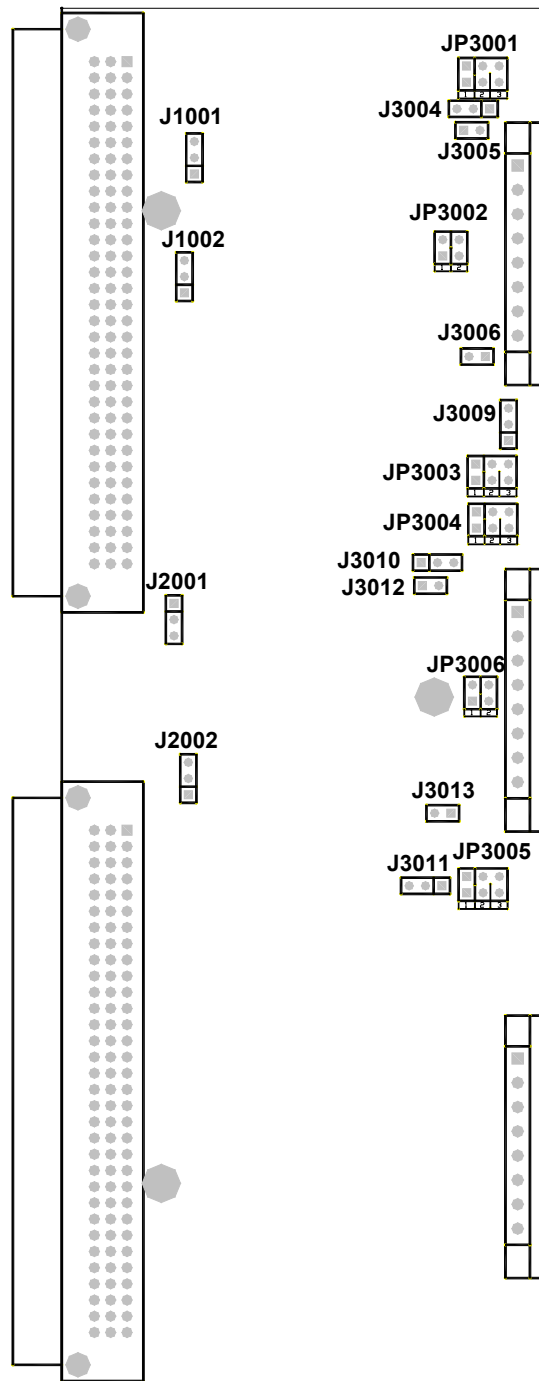

Figure 5 PT2060/20-Back panel jumper location
3. After step 1 and 2, then you can see the core PCB like Figure 5.